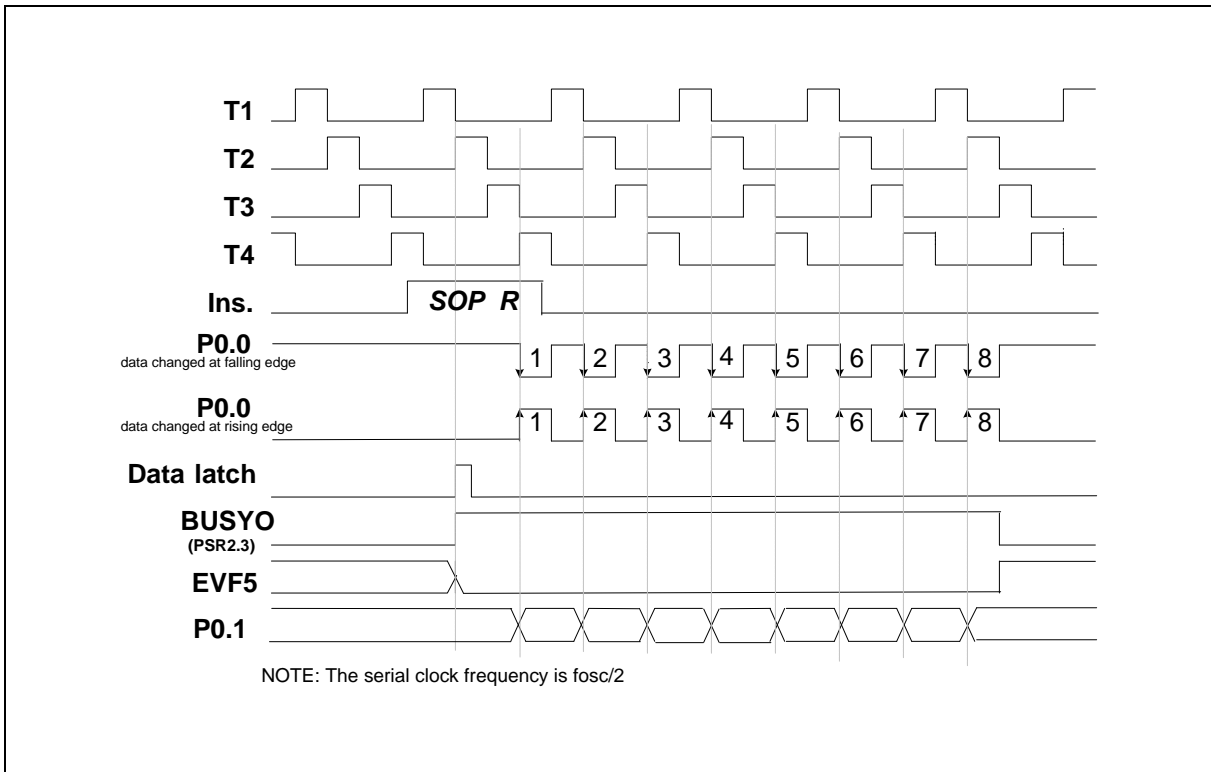

Figure 5-13 Timing of the Serial Output Function (SOP R)
(2) When the **SOP R** instruction is executed, the data will be loaded to the serial output buffer (SOB) from ACC and the RAM, the low nibble data of SOB is from ACC register and the high nibble data is from RAM, and bit 3 of port status register 2(PSR2) will be set to "1" (BUSY_O = 1). Then the P0.0 pin will send out 8 clocks or accept 8 clocks from external device and the data in SOB will be sent out at the rising or falling edge of the P0.1 pin. After the 8 clocks have been sent, BUSY_O will be reset to "0" and EVF.5 will be set to "1." At this time, if IEF.5 has been set (IEF.5 = 1), an interrupt is executed; if HEF.5 has been set (HEF.5 = 1), the hold state is terminated. Users can check the status of PSR2.3 (BUSY_O) to know whether the serial output process is completed or not. If a serial output process is not completed, but the SOP R instruction is executed again, the data will be lost. The timing is shown in Figure 5-13.